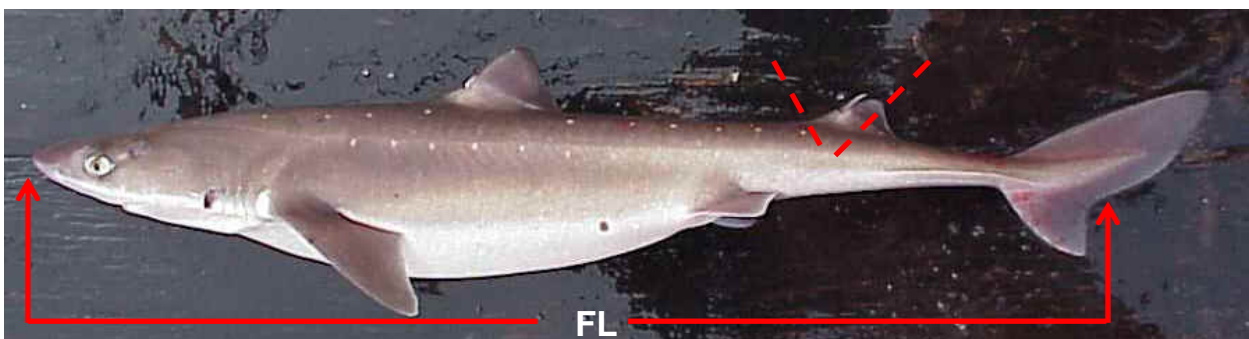

Figure 7 Spiny dogfish fork length and second dorsal spine collection
For dogfish, measure the fork length (FL) from tip of the snout to inside of the fork in the tail (Figure 7).
Cut the entire **second** dorsal spine off, making sure to get all the way to the base of the spine. The easiest way to do this is cut down at an angle just in front and behind the spine making a wedge (see Figure 7). Leave the flesh attached, place the spine in a barcode-labeled bag, and freeze. Record the barcode number, sex, fork length and weight on your deck sheet and enter the data into ATLAS as specimen code 6 (spines).